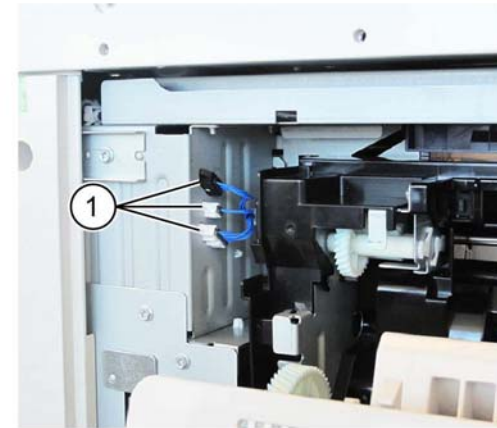

Figure 2 Connectors
7. Disconnect three connectors (1), Figure 2.